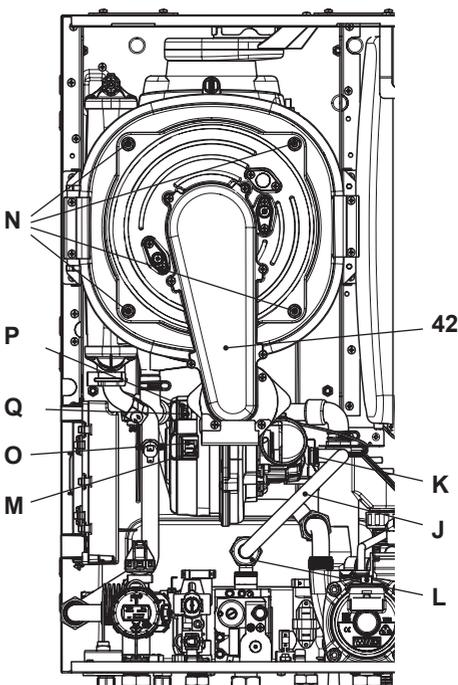

Fig. 9.9
Removing the fan burner unit 42 in Fig. 9.9.
- Insert a flat screwdriver in the connector recess M and lever towards the bottom, disconnect the connector at the same time O by pulling towards the front O (Fig. 9.9).
- Disconnect the fan connector P by pressing the plastic hook Q positioned at the bottom part of the connector (Fig. 9.9).
- Unscrew screws N and remove the fan burner unit 42 (Fig. 9.9)
- Unscrew the N screw nuts and remove the burner group fan 42 (Fig. 9.9)